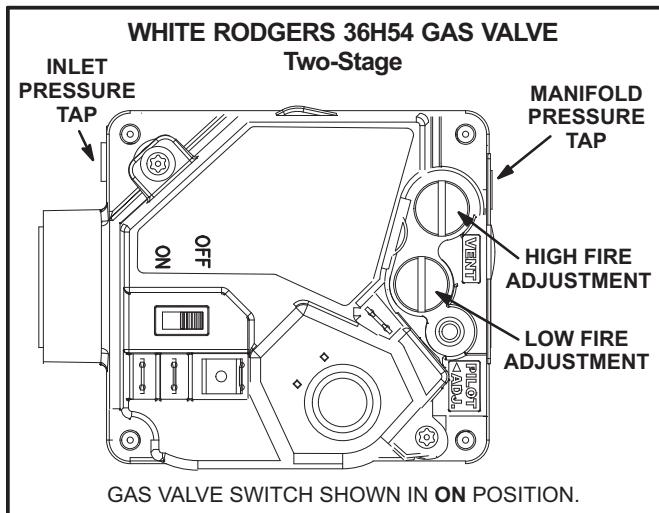
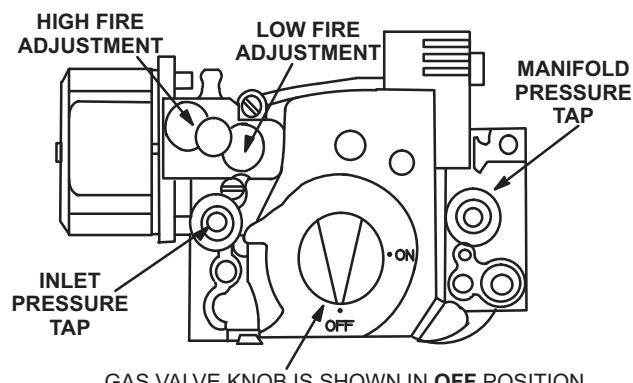

FIGURE 26
FIGURE 27
**Gas Valve Operation for Honeywell VR8205Q/VR8305Q and White Rodgers 36H54 (figure 26 and 27)**
- 6- Turn gas valve switch to **OFF**. See figure 26. On Honeywell VR8305Q gas valves, turn the knob on the gas valve clockwise  to “**OFF**”. Do not force. See figure 27.
- 7- Wait five (5) minutes to clear out any gas. If you then smell gas, **STOP!** Immediately call your gas supplier from a neighbor's phone. Follow the gas supplier's instructions. If you do not smell gas, go to the next step.
- 8- Turn gas valve switch to **ON**. See figure 26. On Honeywell VR8305Q gas valves, turn the knob on the gas valve counterclockwise  to “**ON**”. Do not force. See figure 27.